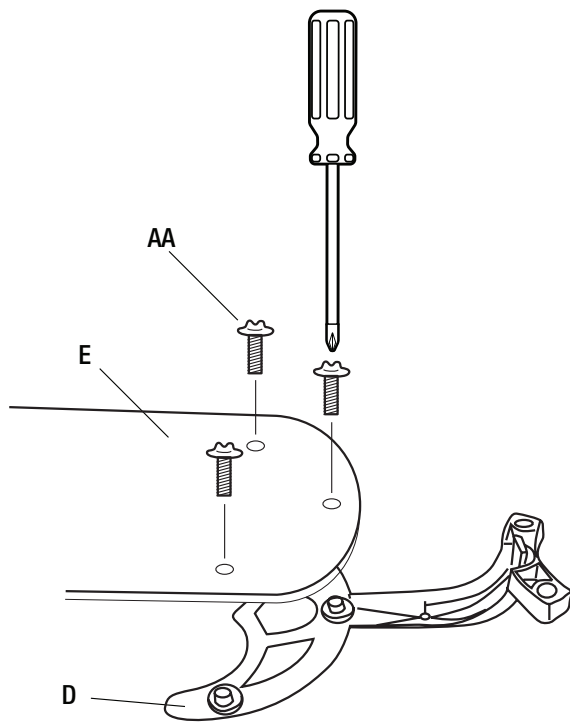

Figure 12
- Mount the blade holders (D) to the fan blades (E) using the screws (AA) provided – 3 per blade (Figure 12). Please note the rubber washers are pre-attached to the blade holder (D).